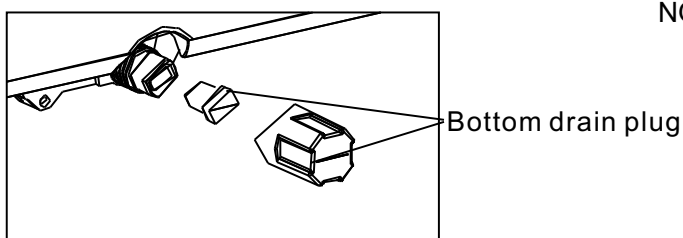

Fig.23
- When the water level of the bottom tray reaches a predetermined level, the unit beeps 8 times, the digital display area shows "P1". At this time the air conditioning/dehumidification process will immediately stop. However, the fan motor will continue to operate (this is normal). Carefully move the unit to a drain location, remove the bottom drain plug and let the water drain away (Fig.23). Re-install the bottom drain plug and Restart the machine until the "P1" symbol disappears. If the error repeats, call for service.